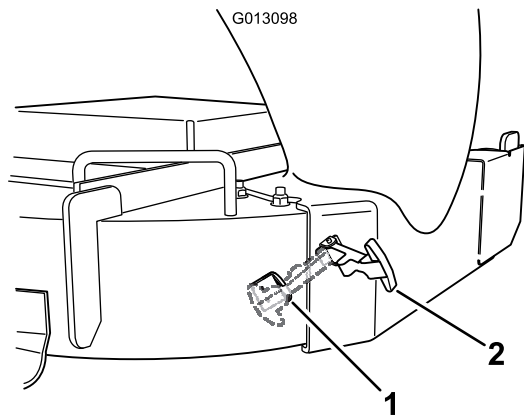

Figure 12
- Hook the flexible latch on the chute to the retaining clasp welded to the side wall of the mower deck (Figure 12).